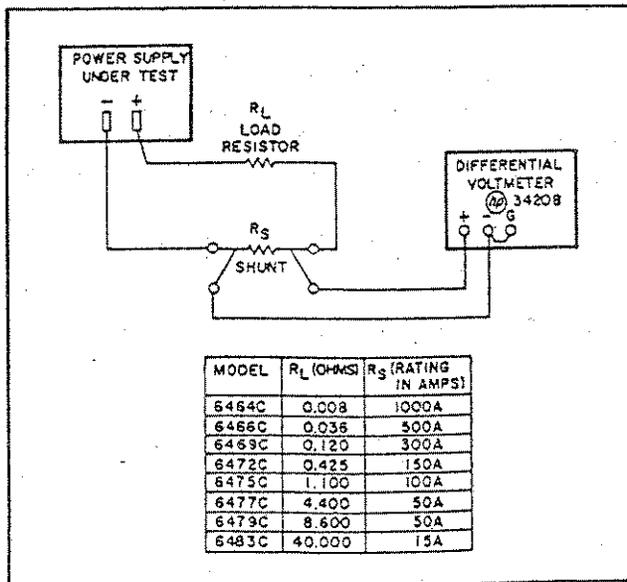

Figure 5-7. Constant Current Test Setup
- a. Connect test setup shown in Figure 5-7.
- Connect test setup shown in Figure 5-7.
- Utilize test setup shown in Figure 5-7.